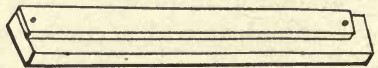
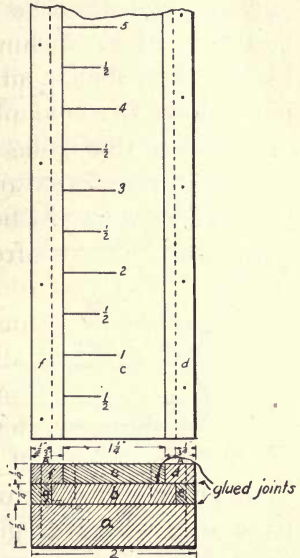

FIG. 90.—HOLDING A THIN STRIP FOR
FIG. 91.—DETAILS OF LEVELING ROD.
Plane up the piece *a*, Fig. 91, to size, following the directions given in previous lessons as to planing up
stock. The dimensions of this piece will be  $\frac{1}{2}'' \times 2'' \times 5' 6''$ . As it is a thin, narrow piece, it is apt to buckle and break in planing. To prevent this, fasten the two ends to a board, as shown in Fig. 90, by boring  $\frac{3}{8}''$  holes through the piece and board and driving hardwood pegs in flush with the top of the piece to be planed. Very thin lumber can be surfaced this way, and all the pieces in this exercise can be planed on the same board with the same pegs and board. Each of strips *d*, *e*, *f*, and *g*, Fig. 91, are  $\frac{1}{4}''$  thick and so can be planed in one strip and cut apart afterwards. In cutting apart the strips, some lumber will be wasted, as the edges must be planed, so it will be necessary to allow for this waste and make the piece from which they are cut  $1\frac{1}{2}''$  wide, although the sum of the widths is only  $1\frac{1}{4}''$ .
2. Assembling all pieces and shellacking. — Strip *c* should now be glued and nailed to strip *b* in the position shown in Fig. 91, end view.
little at *a*; this will make it bind on the rod and cause it to stay wherever placed without holding. Saw off the top 6" of the part *adefg*, Fig. 91, and fasten to part *bc* with two screws.